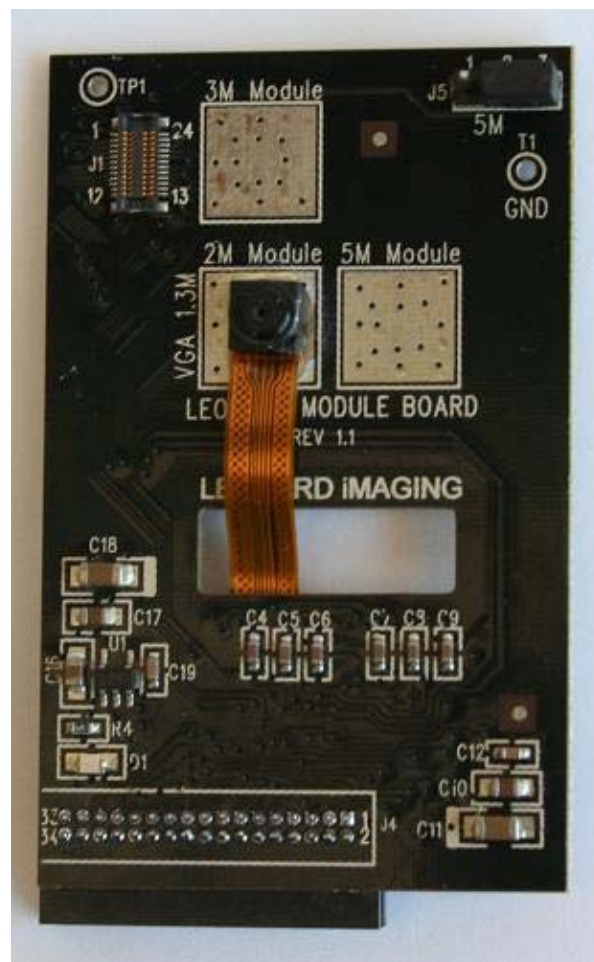

Figure 3. VGA Camera Board
1.2 VGA Camera Board, see Figure 3.